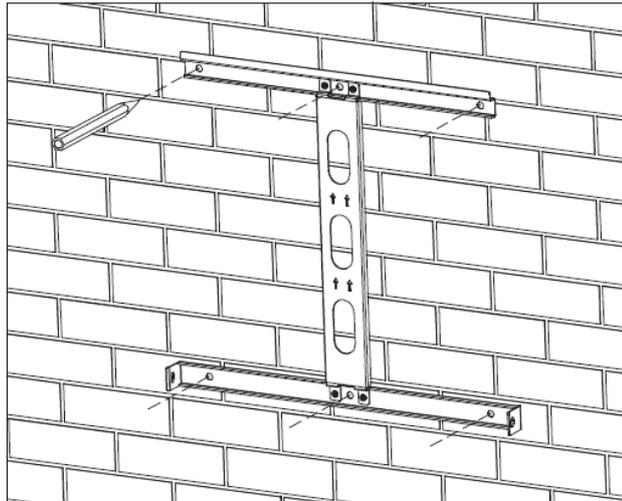

Figure 4.8 Mark the punch position
- (1) Use the wall hanging plate in the packing box to determine the hole position, As shown in Figure 4.8. Level the holes with a level ruler and mark it with a marking pen.